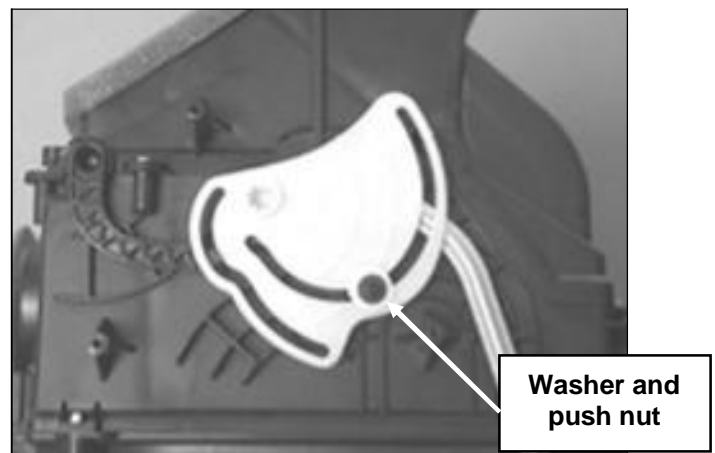

Figure 12
19. Place the washer and "push nut" (included with the kit) onto the right-side door pin, as shown in Figure 12).